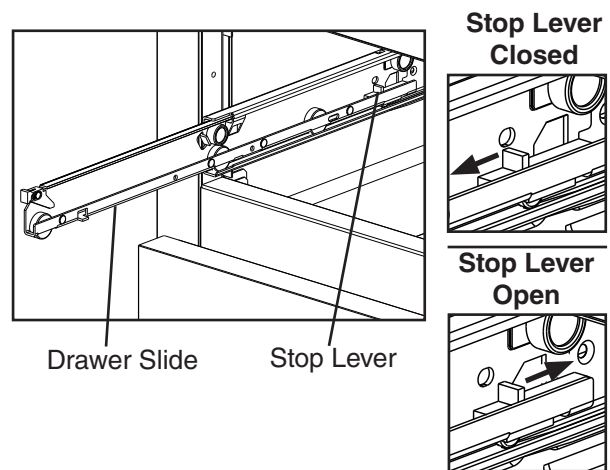

Fig. 5
- **To remove a drawer slide (center slide containing rollers):** Open the stop levers (one on each side) by sliding them to the rear. See Fig. 5. Lift up on the drawer slide slightly, then pull to disengage the drawer slide. **WARNING! Be sure to close the stop levers when reinstalling the drawer.** Drawer slides do not require lubrication, but drawer slides should be kept clean and free of food.